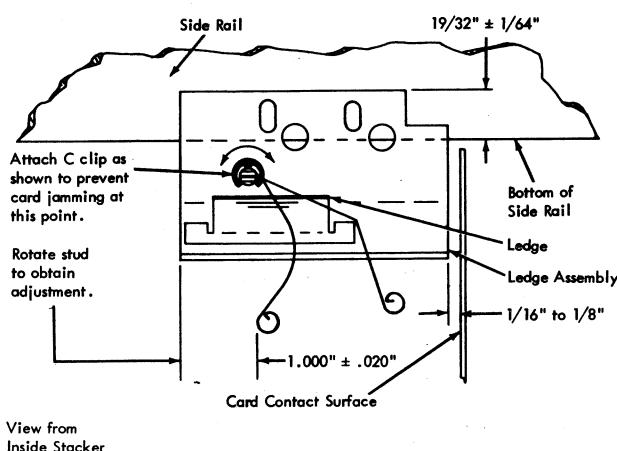
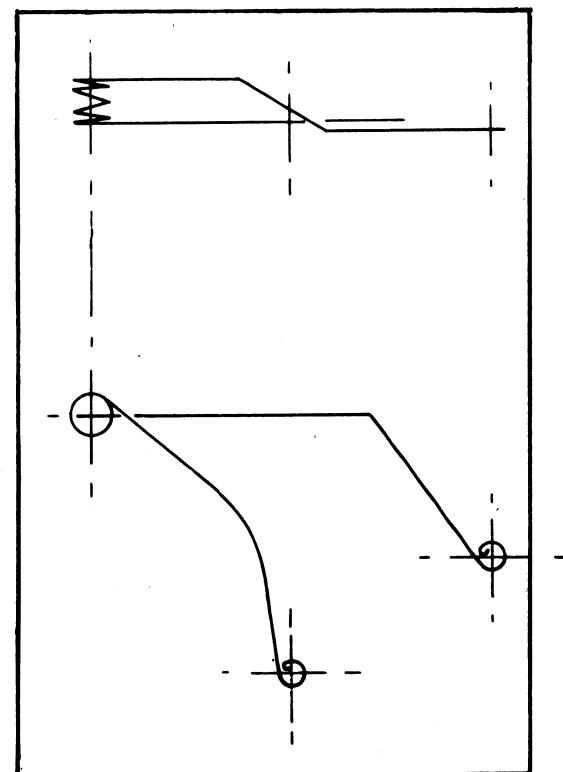

Figure 4-26. Restrainer Spring Adjustment
Figure 4-27. Spring Configuration (Actual Size)
1. Position ledge assembly vertically so top of ledge assembly to bottom of side rail is $19/32" \pm 1/64"$. Ledge must be parallel to stacker side rail within $.010"$ (Figure 4-26).
Rotate restraining spring mounting stud to obtain dimension shown in Figure 4-26. For optimum stacker performance, the restraining spring should conform to configuration shown (Figure 4-27).